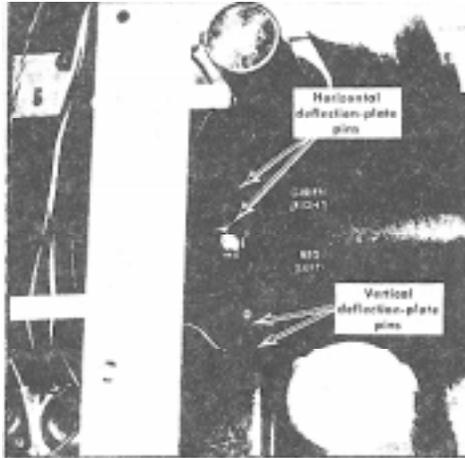

Fig. 5-9. Location of vertical and horizontal deflection-plate neck pins.
- a. Connect the DC voltmeter (set to 300 volt scale between the two vertical deflection plate neck pins (BLUE and BROWN leads, see Fig 5-9.) Do not short to the CRT shield.
- d. Connect the DC voltmeter (set to 300-volt scale) between the two horizontal deflection plate neck pins (GREEN anti RED leads, see Fig. 5-9).